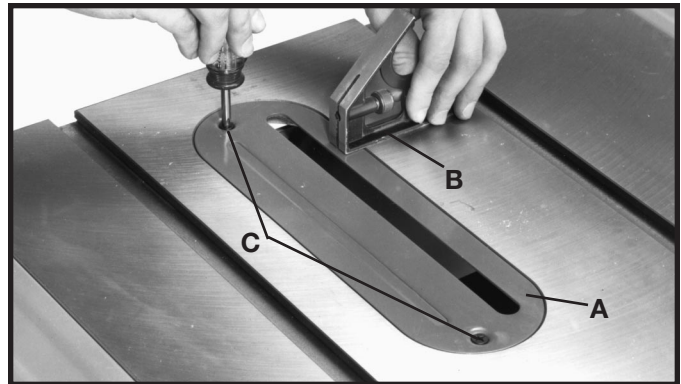

Fig. 52
The table insert (A) Fig. 52, should be adjusted so it is flush with the saw table surface. Place a straight edge or square (B) on the saw table extending over the insert, as shown. If an adjustment to the insert is necessary, tighten or loosen the two adjusting screws (C).